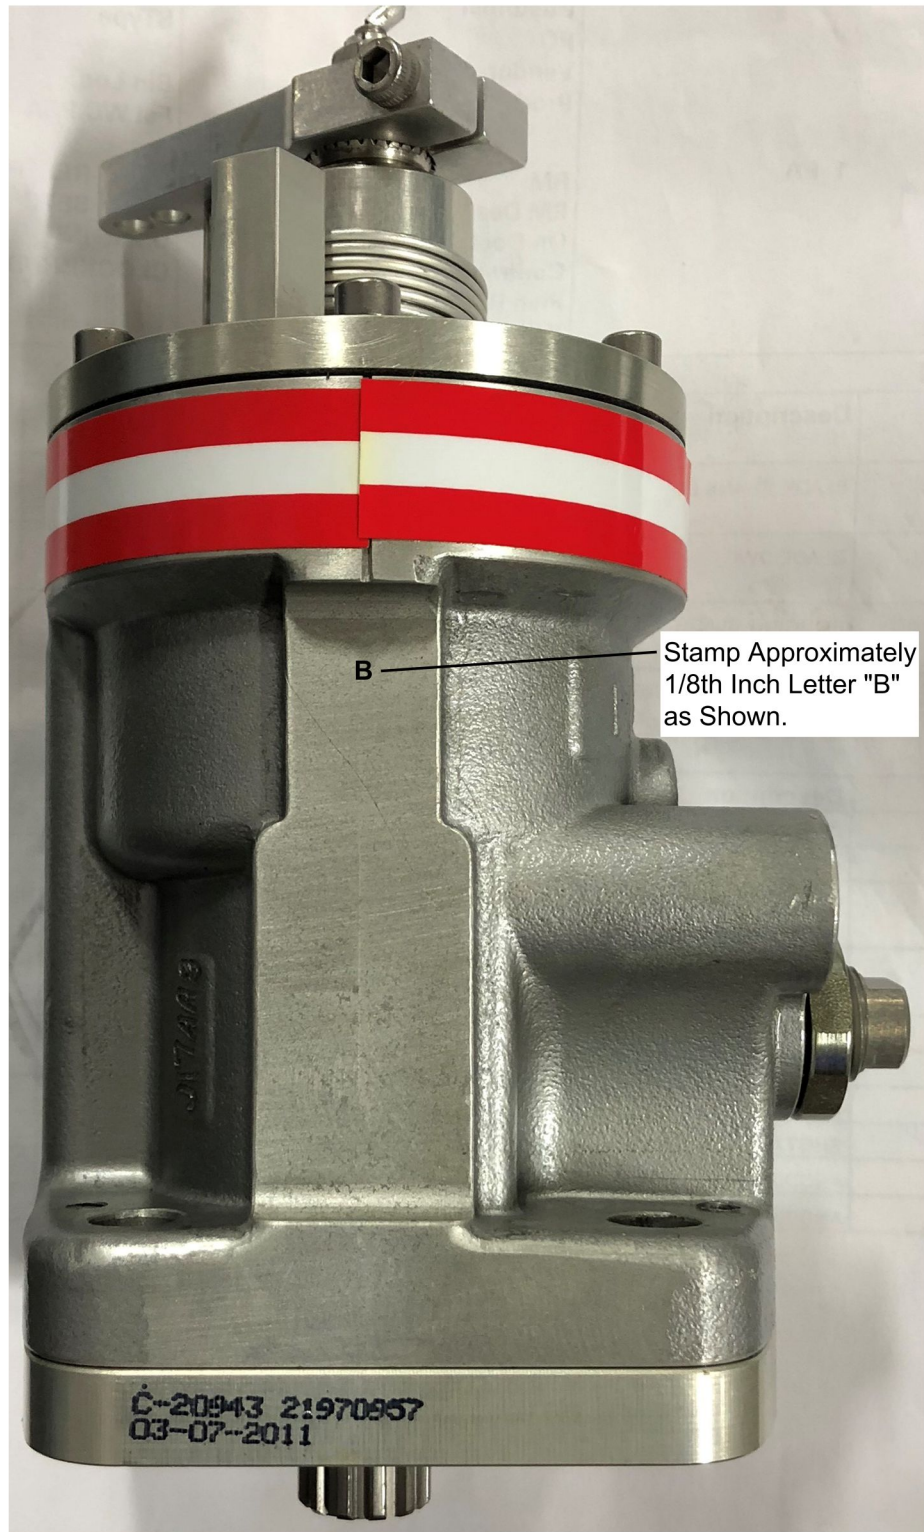

Figure 2. Governor Stamping (Sheet 1)
- (1) Remove and retain the A-20107 idler gear assembly.
- (2) Overhaul the governor and complete associated actions as indicated in McCauley SB215C
- E. Stamp the letter "B" (Approximately 1/8th of an inch character) on the governor body as shown in Figure 2.
**NOTE:** Governor stamping can be on the side shown in Figure 2, or on the data plate side.